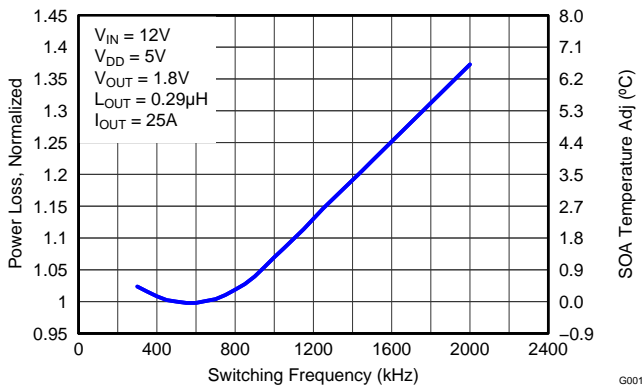

Figure 7. Normalized Power Loss vs Frequency
- Normalized Power Loss for switching frequency  $\approx$  1.02 (Figure 7)
- SOA adjustment for switching frequency  $\approx$  0.3°C (Figure 7)